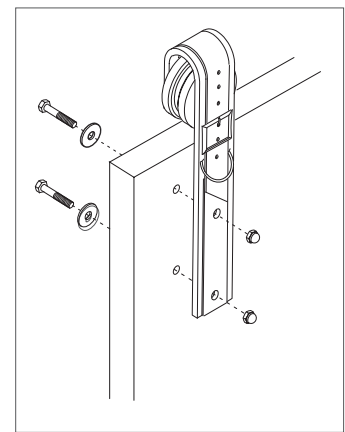

Figure 6
9. Install the hangers to the front of the door using hex bolts, washers, and acorn nuts (provided) (Figure 6).
11. Hang the door (Figure 6).